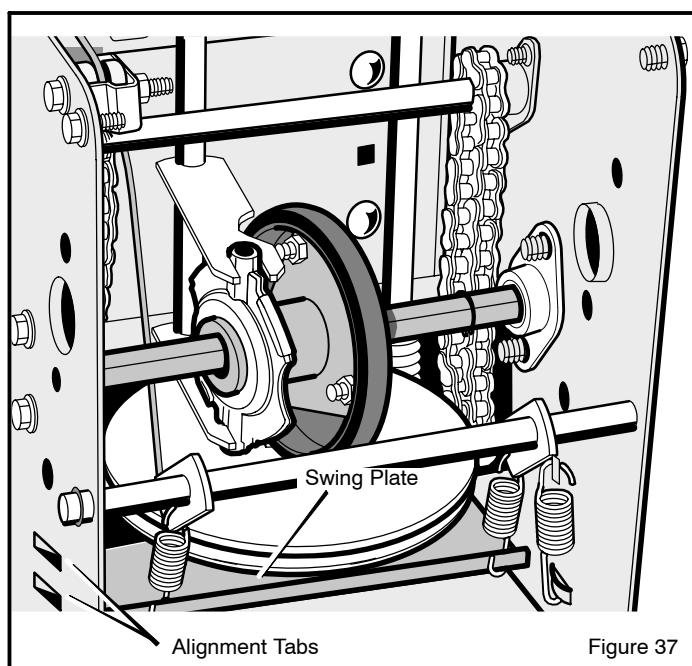

Figure 37
10. The bottom of the **swing plate** must be positioned between the **alignment tabs**. Make sure the **swing plate** is properly secured (see Figure 37).